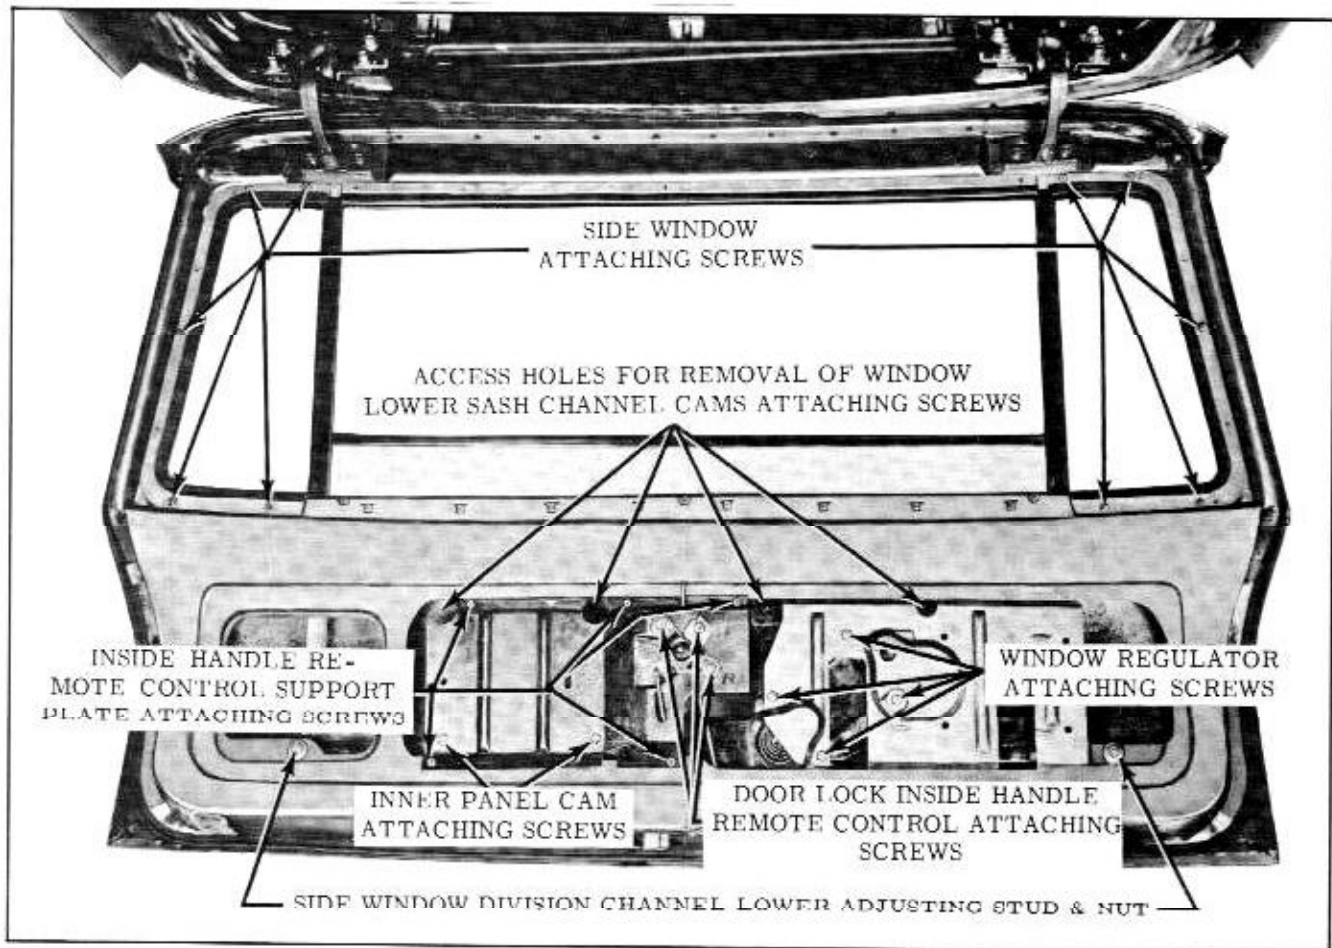

Fig. 15-84 Back Door Window Mechanism
2. Remove side window division channel lower attaching stud nut. (Fig. 15-84)
2. Lower dropping window until lower sash channel cam attaching screws are aligned with access holes in inner panel. (Fig. 15-84); Then, remove both right and left cam attaching screws.
2. On back doors with manually operated window, remove lower garnish molding and inner cover panel. Lower dropping window until lower sash channel cam attaching screws are aligned with access holes in inner panel (Fig. 15-84); then, remove both right and left cam attaching screws and remove cams from regulator lift arms.